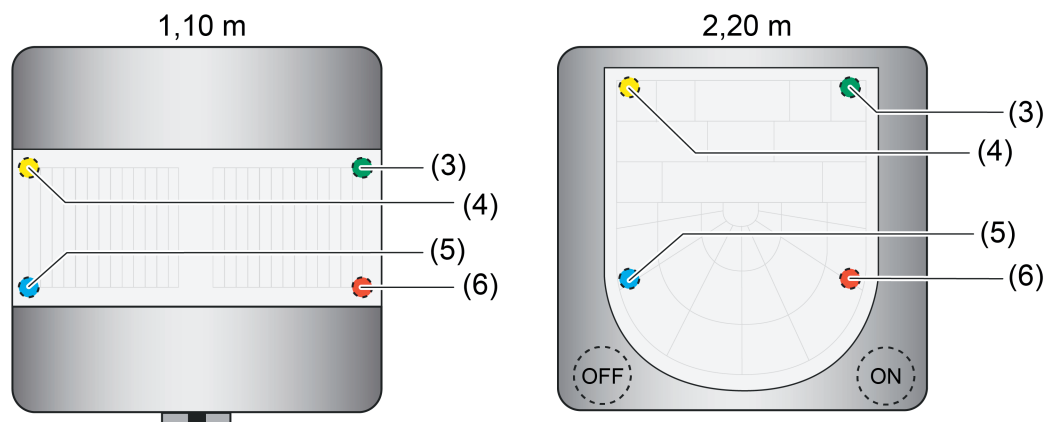

Figure 34: Arrangement of the LEDs to display the operating states
There are 4 LEDs positioned behind the PIR lens, signalling the operating state of the device. If necessary, an active "ON" operating mode can be displayed for the first function block by a green LED (3) and an active "OFF" operating mode by a yellow LED (4) (Figure 34). Whether the operating modes are displayed by the LEDs is configured separately for "ON" and "OFF" in the ETS using the "Display of 'ON' operating mode" and "Display of 'OFF' operating mode" on the parameter page "FB1 - Operating mode / Local operation".